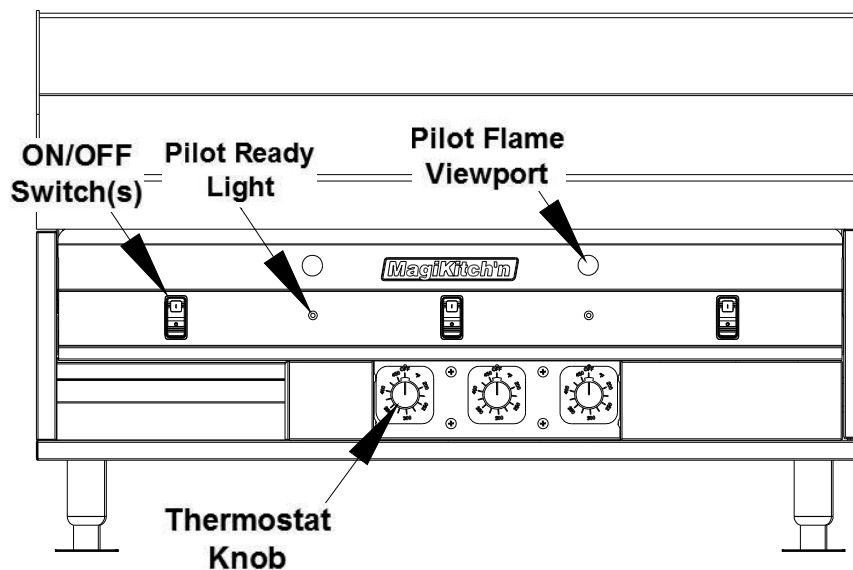

Figure 7
3. Turn the **RED "IO"** switch to the “ I ” (ON) position for all desired Thermostats to be operated, See Figure 7. When the Pilot ready (Yellow) light illuminates, the pilot(s) are ready to operate the main burners.